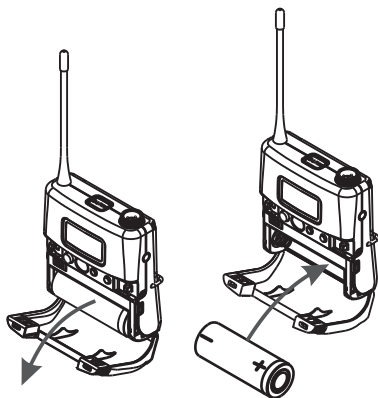

Fig. 26
2. Insert one 18500 type lithium battery according to correct polarity, Fig. 26.